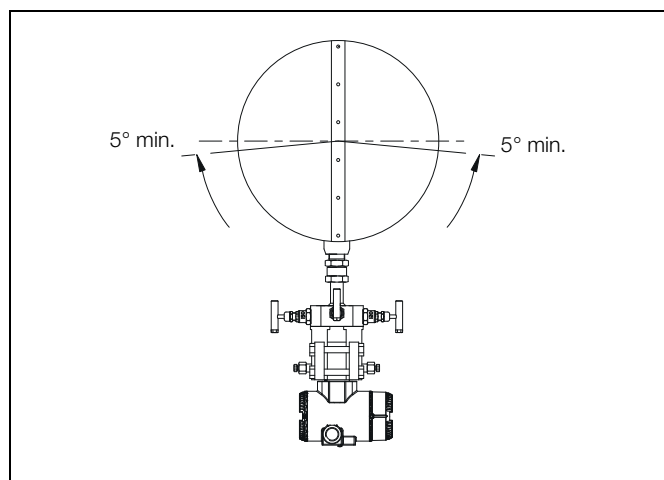

Fig. 2.10 Horizontal Pipe Mounting – Liquids
To ensure the instrument lines contain only the process liquid, install PitoMaster with the instrument connections **below** the centre line of the pipe, at least  $5^\circ$  below the horizontal – see Fig. 2.10.
- for horizontal pipe mounting – liquid, refer to Fig. 2.10.